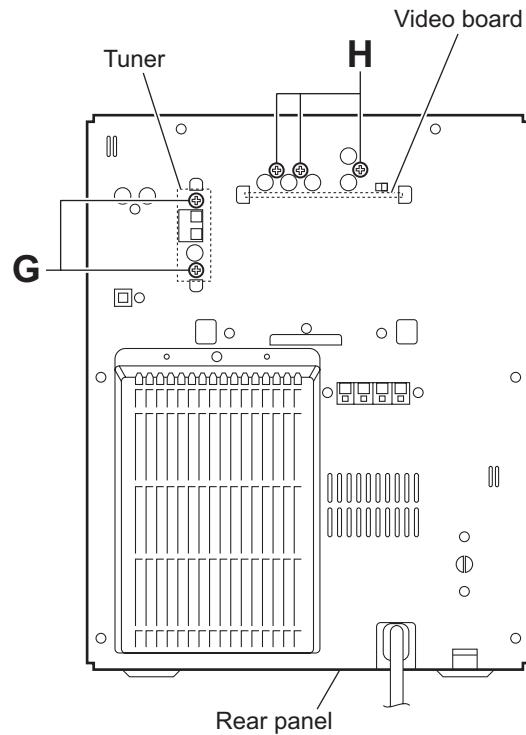

Fig.9
(2) From the back side of the main body, remove the two screws **G** attaching the tuner to the rear panel. (See Fig.9.)
(2) From the back side of the main body, remove the three screws **H** attaching the video board to the rear panel. (See Fig.9.)